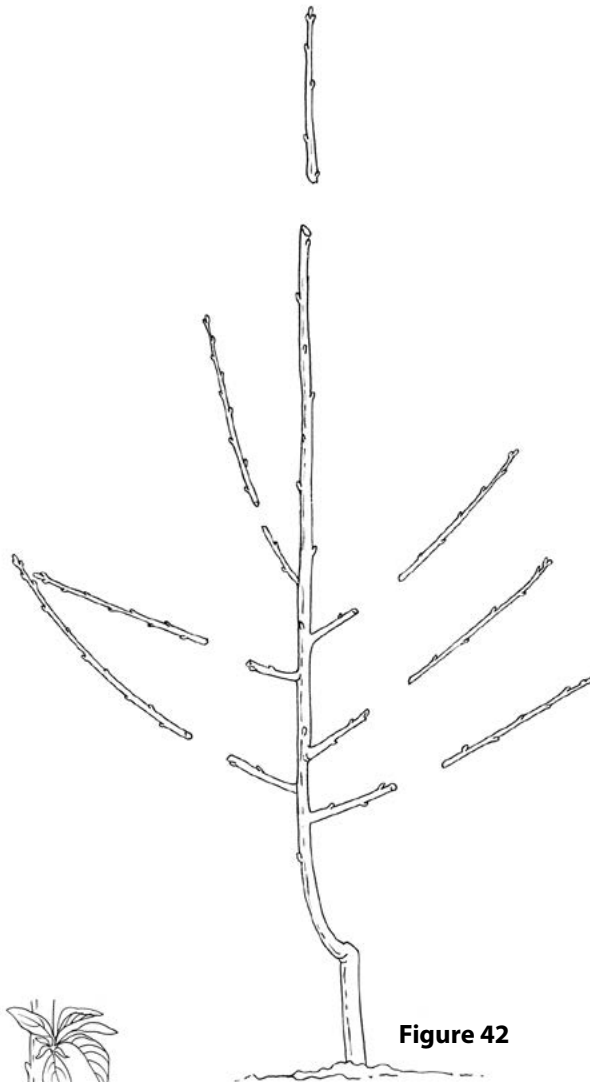

Figure 43
- It is critical to induce 10 or more lateral branches on the leader during each year of canopy development. This can be done via girdling of the trunk or application of a cytokinin-gibberellin growth regulator (e.g., Promalin), at green tip; bud removal is NOT recommended (Figure 43).